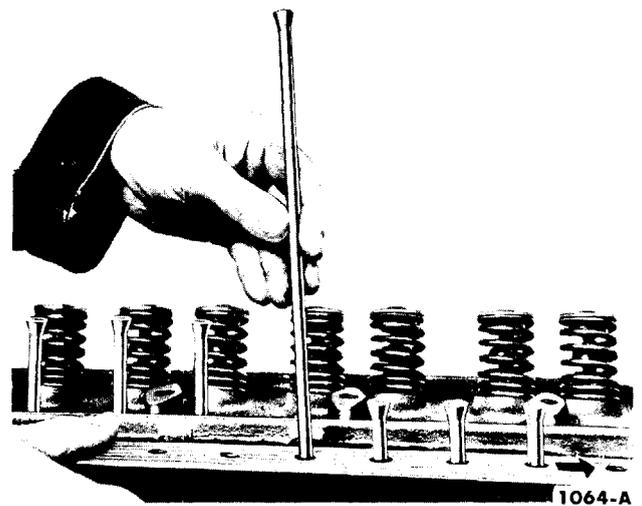

FIG. 11—Valve Push Rod Removal
6. Remove the valve push rods in sequence and identify them so they can be installed in their original positions (Fig. 11).